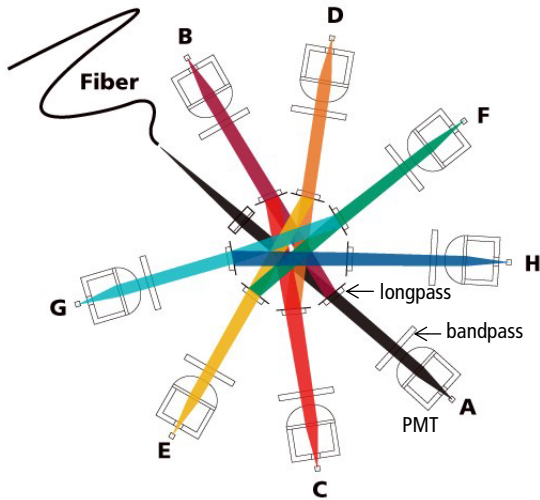

Figure 2-8 Detectors and filters in octagon array
Optical filters modify the spectral distribution of light scatter and fluorescence directed to the detectors. Two kinds of filters are used in the detector arrays: longpass (LP) filters are used to steer light between the detectors within a detector array, while bandpass (BP) filters in front of each PMT allow fine-tuning the spectral wavelengths that need to be collected (Figure 2-8).